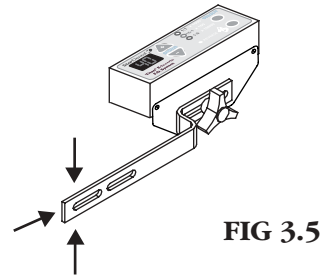

FIG 3.5
4. To manually determine a mounting location, assemble mount to control unit using knob, see FIG 3.5. Allow knob to remain loose so control unit is free to rotate.
5. Position control unit in desired location. Press mount flush against mounting surface. With a pencil, mark underside of mounting surface at three edges, see FIG 3.5.